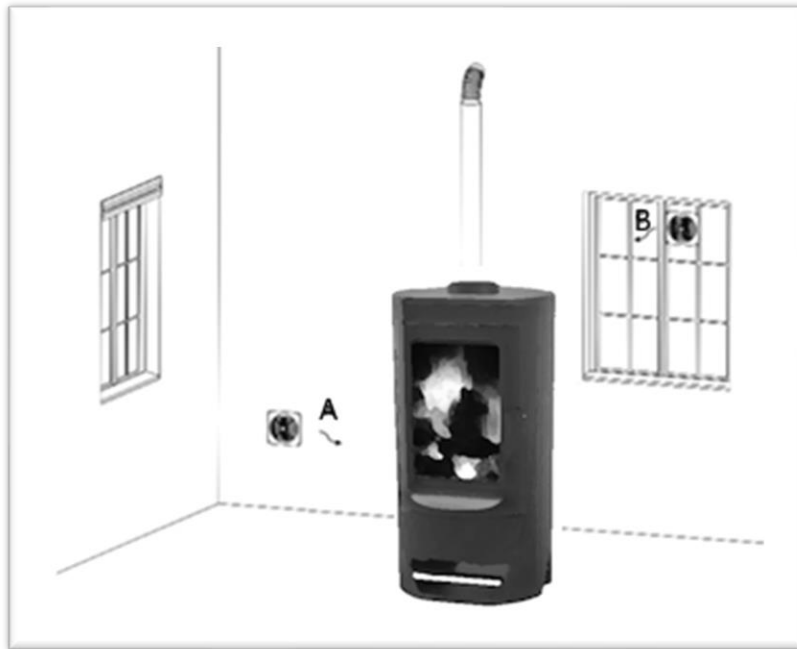

Figure 1
1. The room where the stove is installed must have adequate ventilation, as the stove will draw in the amount of air it needs for both combustion and heating. If there are no windows, or if the windows and doors are tightly closed, or if there are devices such as an extractor hood, air must be supplied from outside. Grilles such as those shown in Figure 1 (A and B) can be used.